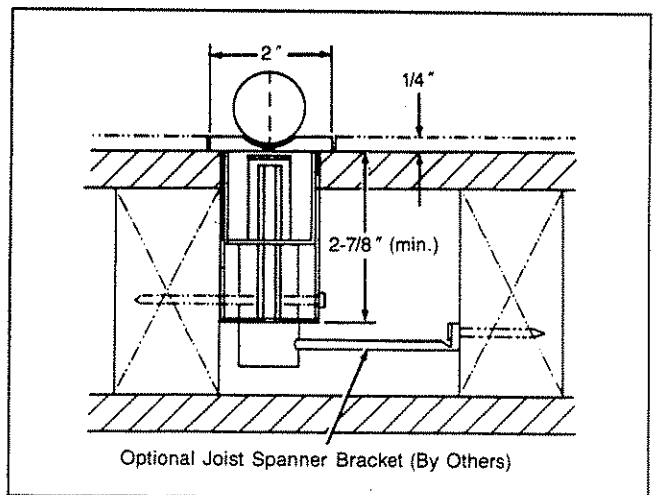

Figure 2.
3. Locate the rough-in box in the desired mounting position as shown in Figure 2. Custom length and mitered faceplates should be taken into consideration when determining the location of the rough-in box. See **INSTRUCTIONS FOR MITERING AND CUSTOM LENGTHS** at the end of this procedure.
4. Secure the rough-in box to the wall stud. See Figure 2.